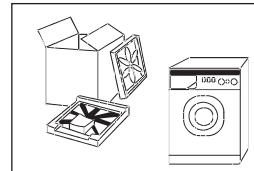

Figure 1
- As shown in Figure 1 , remove all the packing materials (including the foam base).